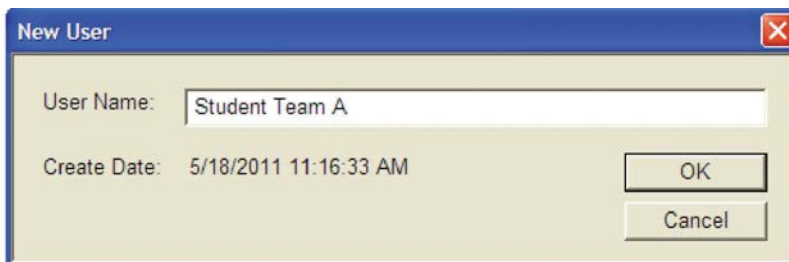

Figure 8.16. BioLogic DuoFlow system New User dialog box.
3. Enter your name in the dialog box and then click OK (Figure 8.16).